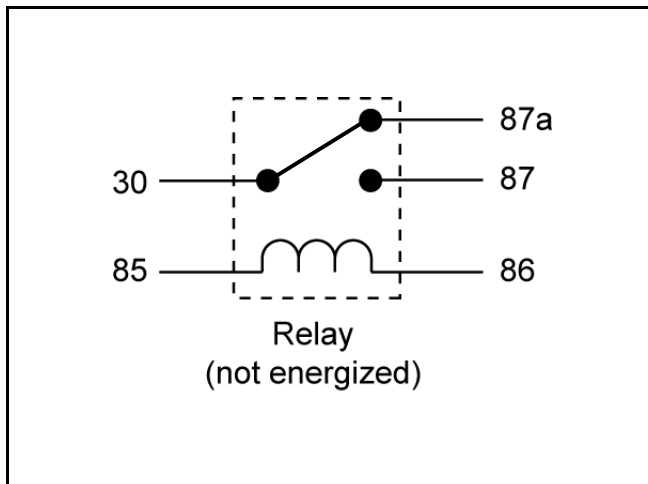

Figure 16
2. Verify the coil resistance between terminals 85 and 86 with a multimeter (ohms setting). Resistance should be from 70 to 90 ohms. There should be continuity between terminals 87a and 30 (Figure 16).
3. Connect multimeter (ohms setting) leads to relay terminals 30 and 87. Ground terminal 86 and apply +12 VDC to terminal 85. The relay should make and break continuity between terminals 30 and 87 as 12 VDC is applied and removed from terminal 85 (Figure 16).
4. Connect multimeter (ohms setting) leads to relay terminals 30 and 87a. Apply +12 VDC to terminal 85. With terminal 86 still grounded, the relay should break and make continuity between terminals 30 and 87a as 12 VDC is applied and removed from terminal (Figure 16).